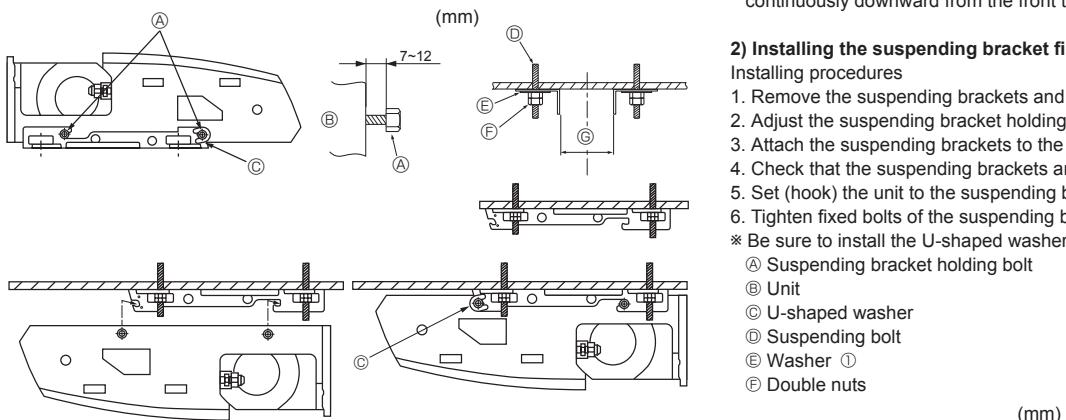

Fig. 3-6
2) Installing the suspender bracket first onto the ceiling (Fig. 3-6)